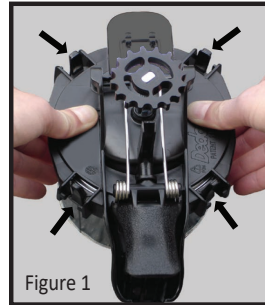

Figure 1
- Firmly, push down on the top of the mixing lid (Figure 1).